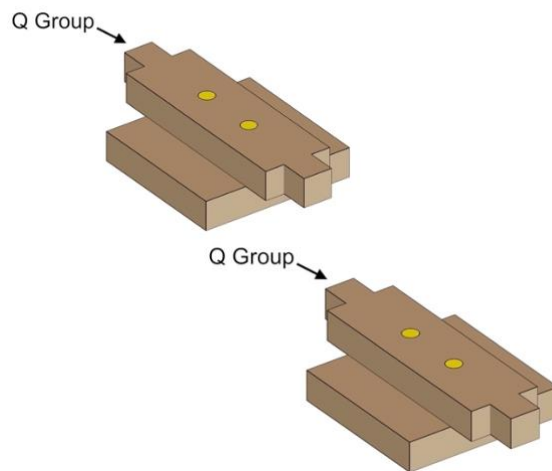

Fig. 82
- Fig. 82 shows the completed process (make two parts).